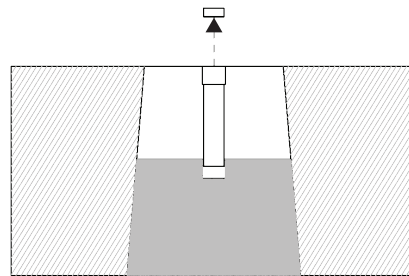

Figure 2
STEP 3: Remove Anchor Sleeve Cap (Item #1). Insert both Anchor Sleeves (Item #2) into the hole in the concrete. See Figure 2. The Anchor Sleeves should be 22' apart from the inside face of each post.
- STEP 2:** Slide Height Collar (Item #4) onto each pickleball post with the eyebolts facing inward, on the same side as the lacing rod. See Figure 2.